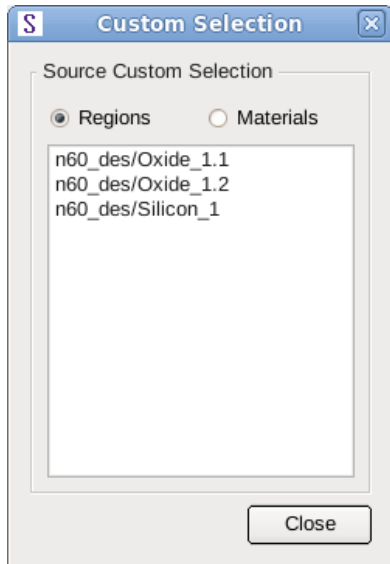

Figure 90 Custom Selection dialog box
- **Custom Selection**: You select the regions or materials to be cut in the Custom Selection dialog box (see Figure 90 on page 112).